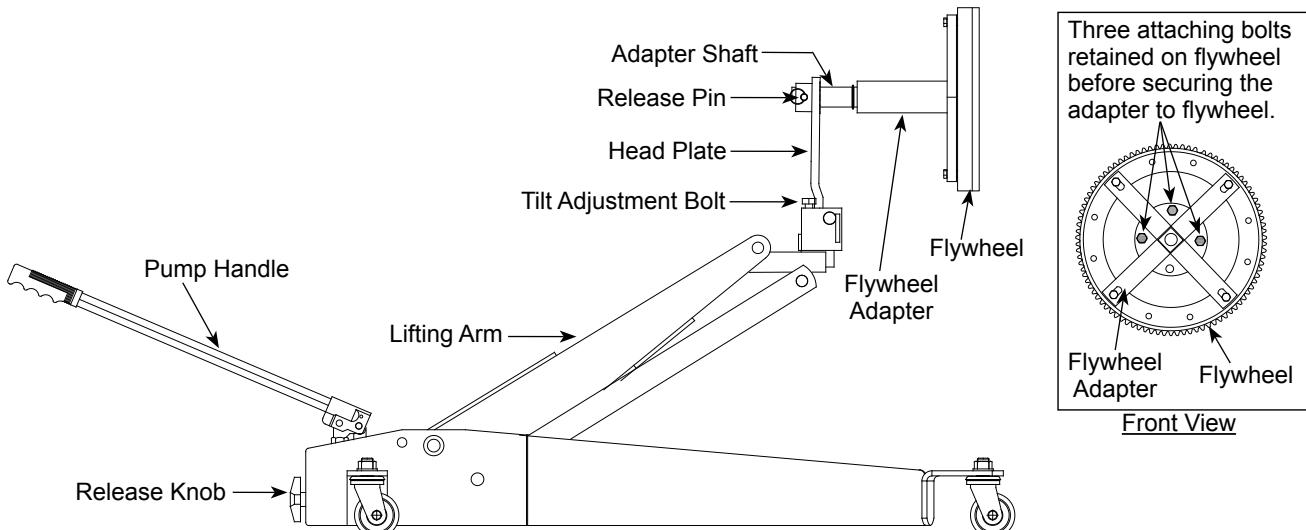

Figure 4 - Flywheel Adapter Operational Illustration
Clutch Handler is designed for clutch/flywheel removal and installation. Intended use: to remove, install and transport (in lowest position) both 14" and 15-1/2" clutches and flywheels. The two most common spline sizes, 1-3/4" and 2" diameter, are included with this product. The head plate enables clutch to be positioned in either horizontal position for clearing underneath vehicle or vertical position for installation and removal. The spline sleeve rotates 360 degrees, turns side to side and vertically tilts for precise clutch alignment. Model 40501 is designed to be used in conjunction with Omega Clutch handler, 40500 only. Refer to Figure 4 to ensure all parts are included before use.
1. Remove all the flywheel attaching bolts (flywheel to crankshaft bolts) except for the three bolts pointed in Figure 4.
2. Install the flywheel adapter as shown in Fig. 4. Close the release valve knob fully. Pump the handle to raise the lifting arm and align the flywheel adapter to the flywheel using the tilt adjustment bolt.
1. Close release valve knob, pump the handle and raise the flywheel into position shown in Figure 4 for installation. Adjust the flywheel using tilt adjustment bolt to align the flywheel with the crankshaft.